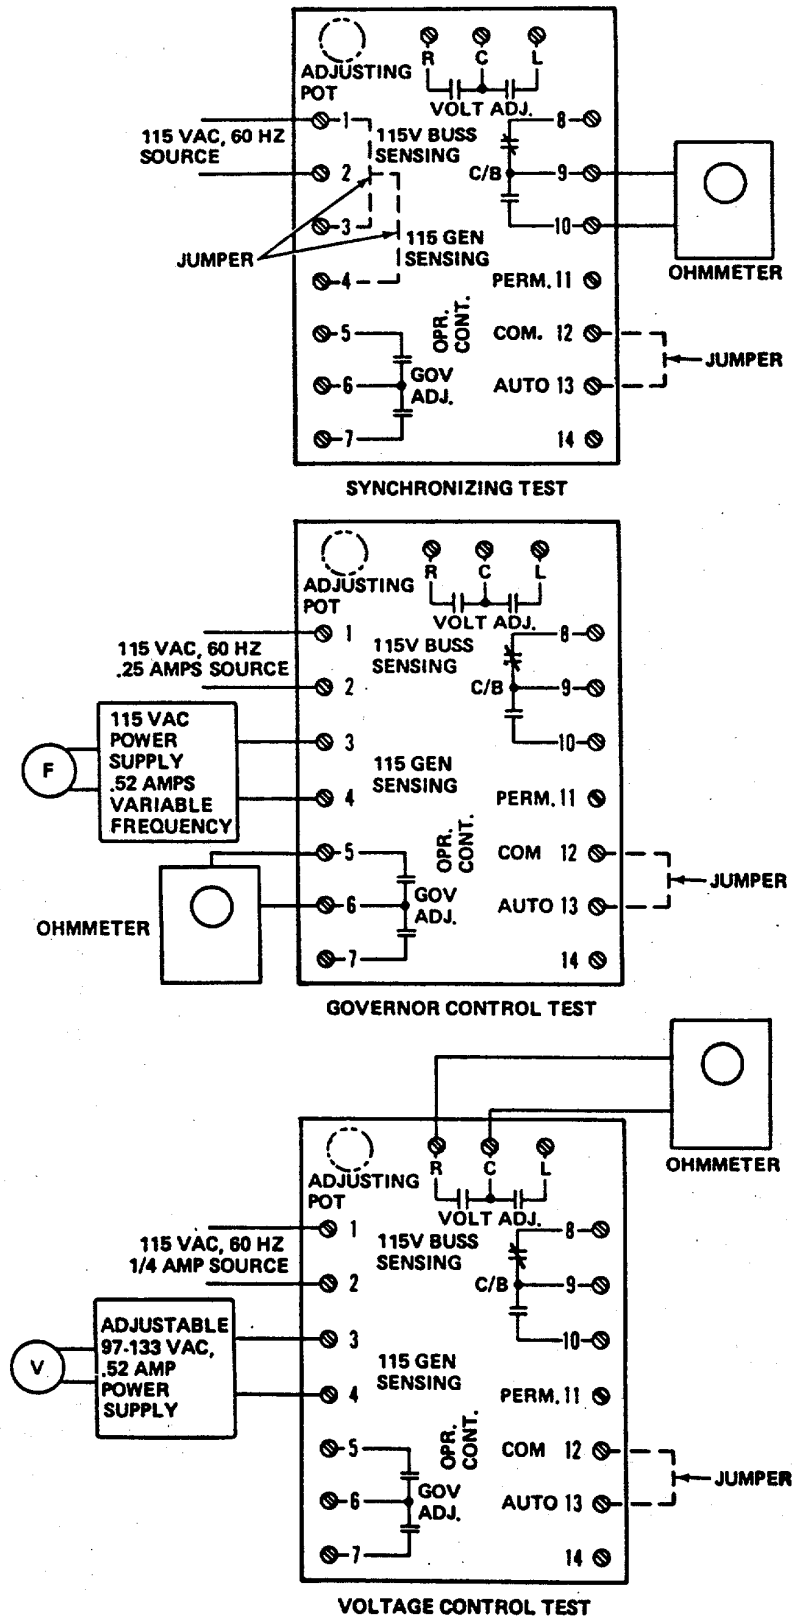

Figure 5-23. Synchronizer, Test Setup
- (1) Test the SRM relay by connecting as shown in figure 5-23, synchronizing test.
- (2) Test the SRM relay by connecting as shown in figure 5-23, "Governor Control Test."
- (3) Test the SRM relay by connecting as shown in figure 5-23, "Voltage Control Test."